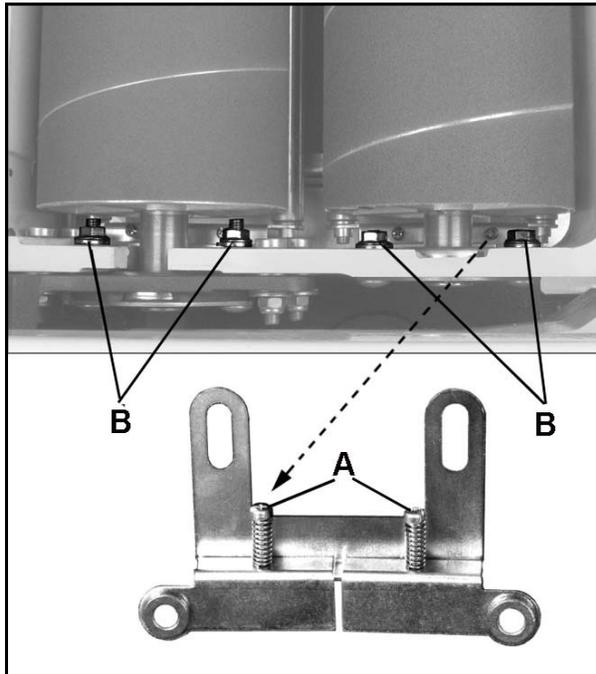

Figure 20
1. Loosen tension roller spring retain screws (A, Figure 20) on both ends of each drum to reduce tension roller pressure.
6. Loosen all eight hex nuts on the bearing bolts (B, Figure 20). This will allow the tension rollers to drop to their position and
contact with the gauge blocks. Note: Figure 20 only shows outboard end of drums. Adjustments must be made on both ends of each drum.)
If there still is a snipe mark left on pieces being sanded, loosen tension roller spring retain screws (A, Figure 20) on both ends of rear drum and/or raise rear drum to keep rear drum just slightly lower than front drum.